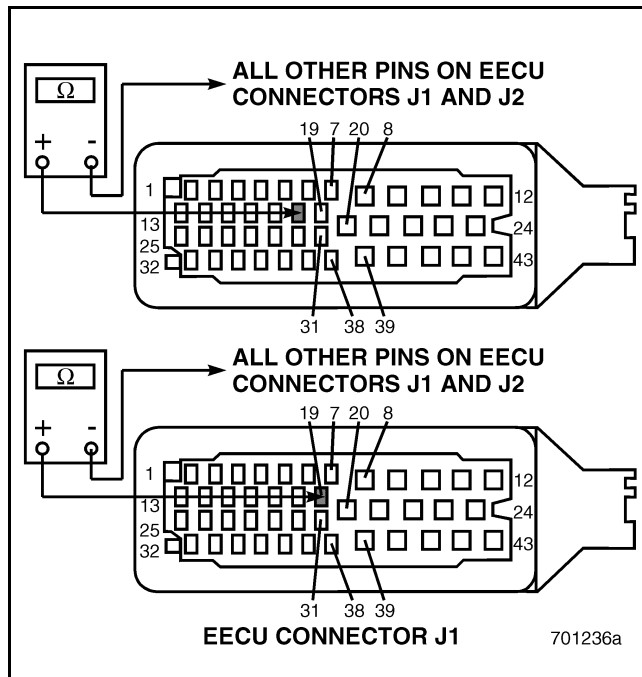

Figure 399
2. Disconnect the Engine Position (EP) Sensor.
4. Check for continuity between EECU connector J1 pins 18 and 19 versus all other pins on EECU connectors J1 and J2 (see Figure 399).